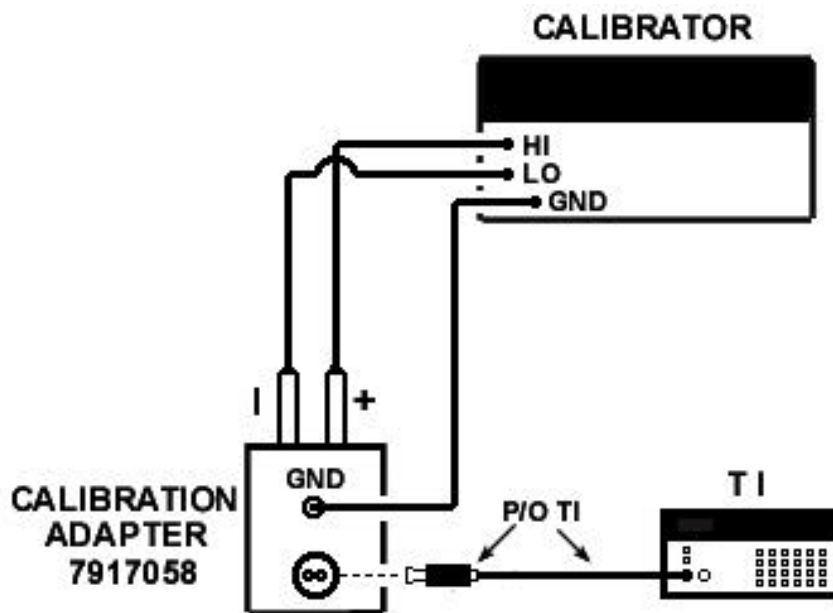

Figure 5. Dc accuracy - high range - equipment setup.
(15) Set calibrator to **STBY** and disconnect test equipment. Connect equipment as shown in figure 5.
(16) Repeat (14) above for calibrator outputs and TI pushbuttons listed in table 9.
(17) Disconnect all equipment, press **CLEAR** pushbutton.
- (7) Disconnect digital multimeter from TI. Press **ZERO** pushbutton and wait for zeroing to end.
- (8) Press **5** and **RANGE HOLD** pushbuttons.
- (9) Connect equipment as shown in figure 5.